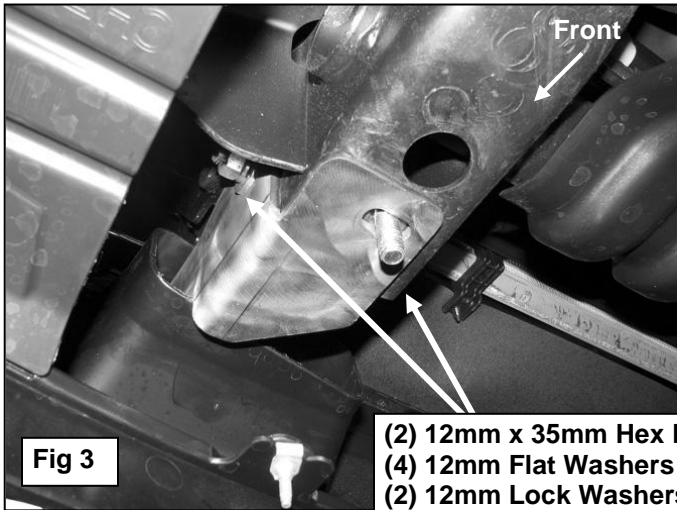

Fig 3
3. Select the driver side frame Mounting Bracket. From behind the bumper, insert the Bracket through the inlet for the tow hook, (**Figure 3 & 4**). Line up the (2) holes in the Bracket with the holes for the tow hook hardware. Bolt the Bracket to the frame with (2) 12mm x 35mm Hex Bolts, (4) 12mm Flat Washers, (2) 12mm Lock Washers and (2) 12mm Hex Nuts. Remove the protective tape. Do not tighten hardware at this time.